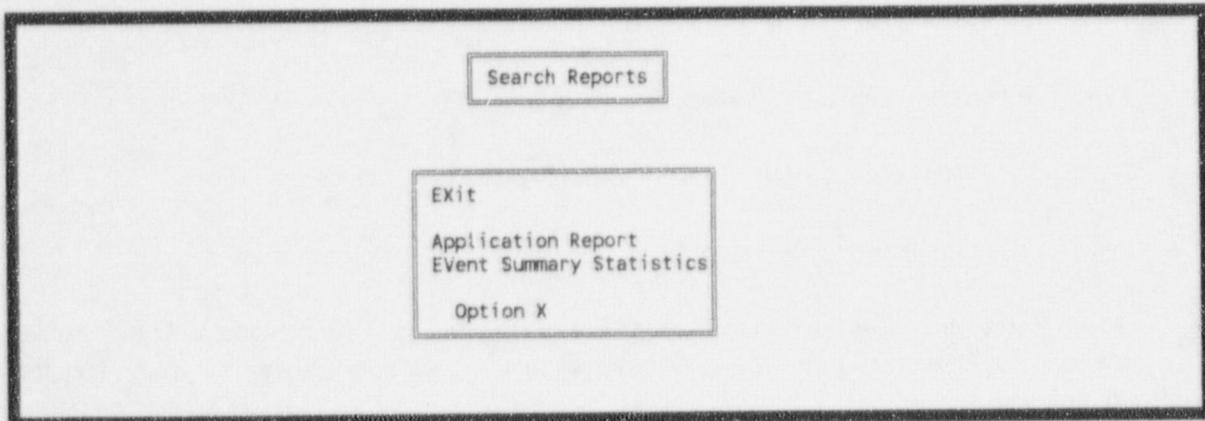
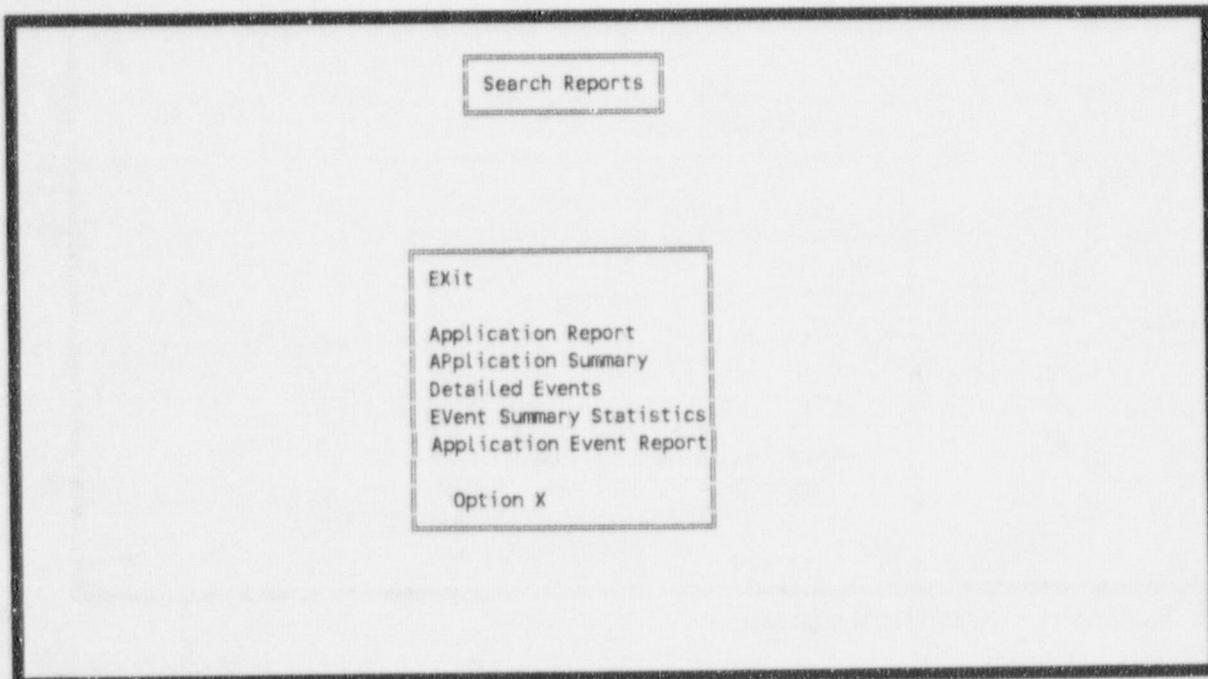

Figure 33. Generic—Unmapped—event, Search Reports screen.
Figure 34. Generic—Mapped—event, Search Reports screen.
Figure 33 or Figure 34 appears if you type **N** or **Y** in the Events Mapped to CCCG Size field respectively. See Sections 3.5.1 through 3.5.7 for specific details about the reports.
2. Press **<F7>** to access the Search Reports screen (Figure 33).
2. Press <F7> to access the Search Reports screen (Figure 34).